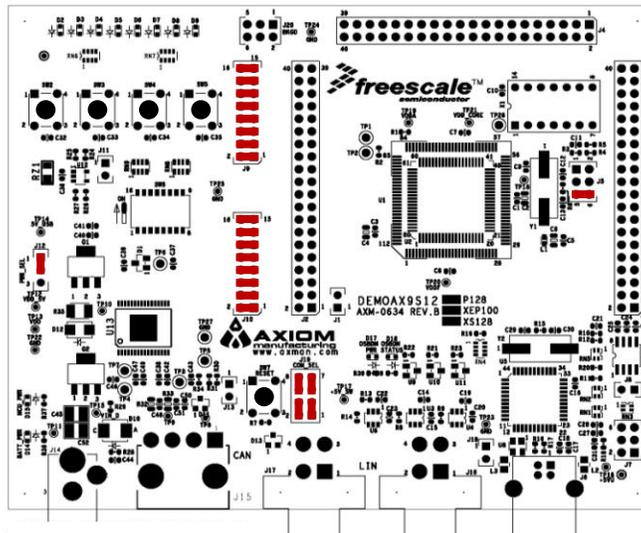

Figure 1: DEMOAX9S12 Default Option Settings
1. Verify the option jumpers are set in default positions. Refer to Figure 1 above.
- Ensure the option jumpers are set to default positions. Refer to Figure 1 above. Specifically, ensure the PWR\_SEL option jumper is set correctly.